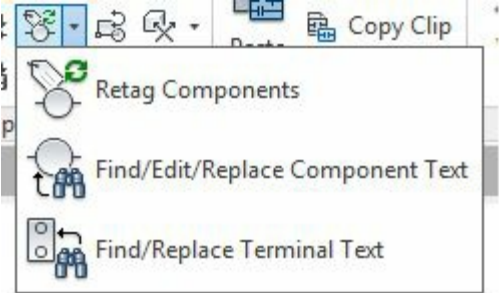
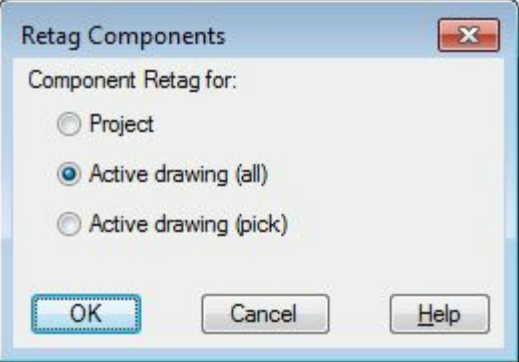

Figure-35. Retag Components drop-down
Figure-36. Retag Components dialog box
- Click on the **Retag Components** tool from the **Retag Components** drop-down in the **Edit Components** panel in the **Ribbon**; refer to Figure-35. The **Retag Components** dialog box will be displayed; refer to Figure-36.